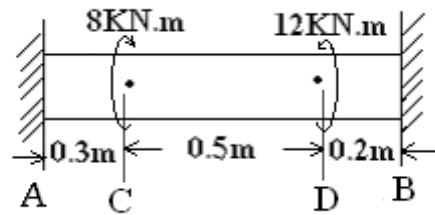

Figure 3
4. A shaft is loaded with two torques as shown in figure 3. Determine the maximum stress in the shaft by Rayleigh Ritz Method. [16]